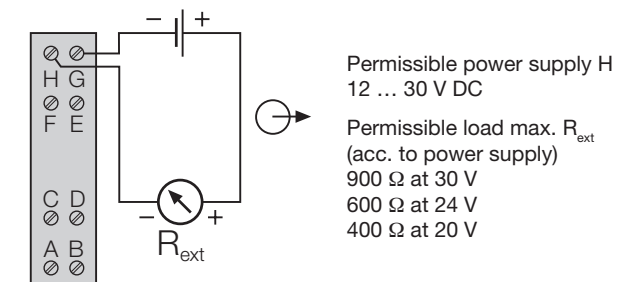

Fig. 5
Connect the measuring output leads (analogue output and power supply) to terminals (H) and (G) acc. to Fig. 5.